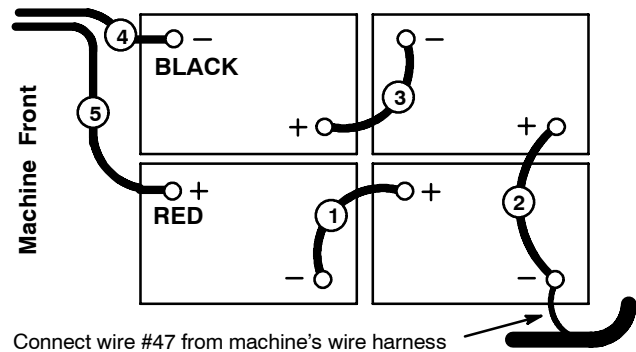

FIG. 2
3. Carefully install the batteries into the battery compartment tray and arrange the battery posts as shown (Figure 2).
5. Connect the cables to the battery posts in numerical order as labeled (Figure 2), RED TO POSITIVE & BLACK TO NEGATIVE. Use the battery post covers and rubber boots supplied.